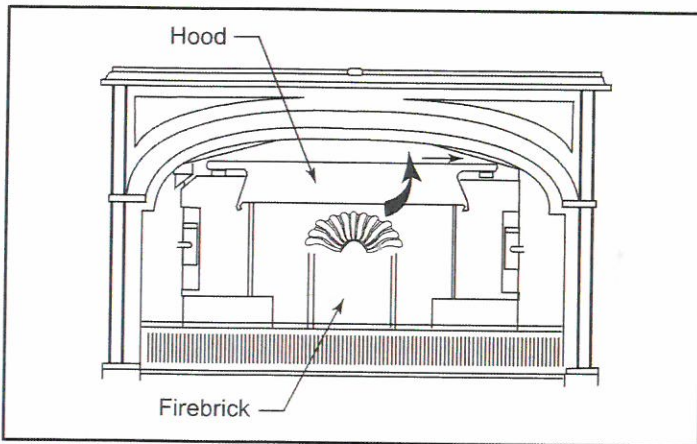

Figure 1 - Remove the throat hood
3. Remove the throat hood; swing its bottom edge forward and then slide the hood to one side until the trailing end drops from its supports. Take it out of the stove. Figure 1.